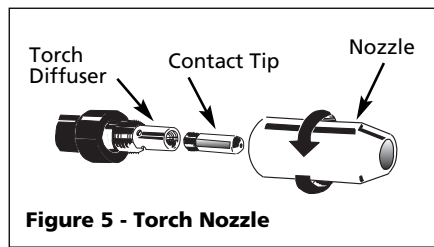

Figure 5 - Torch Nozzle
Note: Before installing welding wire, be sure that the diameter of the welding wire matches the groove in the drive roller on the wire feed mechanism and that the wire size matches the contact tip in the end of the gun (see Figure 5).
6. Remove the nozzle by turning counter-clockwise. Then unscrew the contact tip from the end of the welding torch (See Figure 5). Plug the welder into the proper power supply receptacle.
8. Carefully slip the contact tip over the wire and screw it into the torch end. Install the nozzle by turning clockwise. (See Figure 5). Cut the wire off approximately 1/4 inch from the end of the nozzle.
Note: Before installing welding wire, be sure that the diameter of the welding wire matches the groove in the drive roller on the wire feed mechanism and that the wire size matches the contact tip in the end of the gun (see Figure 5). Any mismatch could cause the wire to slip, bind or weld poorly.
- Remove the nozzle by turning counter-clockwise. Then unscrew the contact tip from the end of the welding torch (See Figure 5). Plug the welder into the proper power supply receptacle.
- Carefully slip the contact tip over the wire and screw it into the torch end. Install the nozzle by turning clockwise. (See Fig. 5). Cut the wire off approximately 1/4 inch from the end of the nozzle.